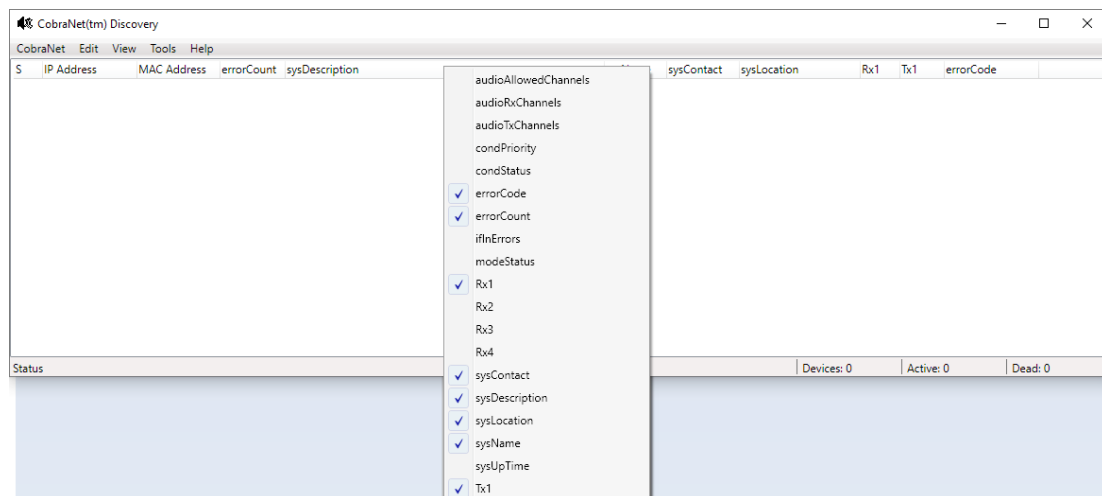

Figure 3: CobraNet Discovery Data Fields
4. Set CobraNet Discovery explorer view to display these data field columns of interest (**Figure 3**): IP Address, MAC Address, errorCode, errorCount, sysDescription, sysName, sysContact, sysLocation, Rx1, Tx1